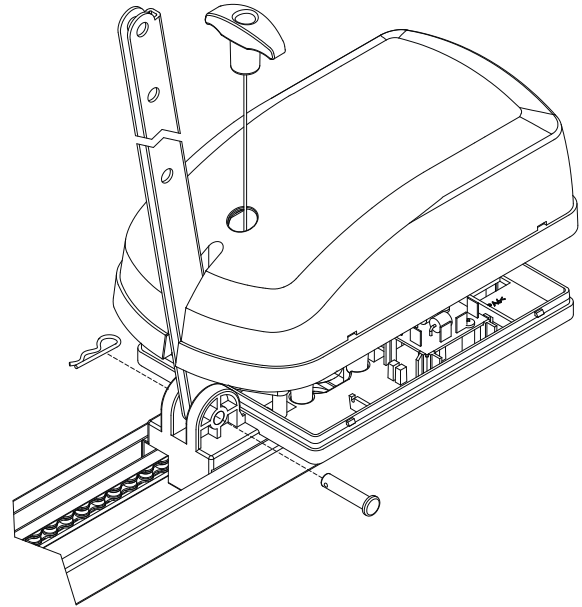

Fig. 2A
- Insert the Straight Towing Arm through the slot in the cover (Fig.2A)
- Attach the arm to the Drive Unit using the short clevis pin and spring clip provided (Fig.2A) and then replace the cover.